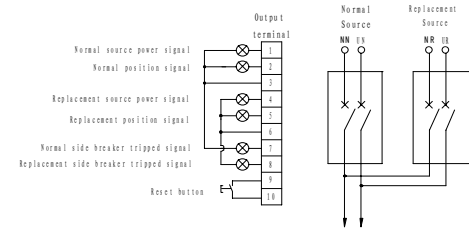
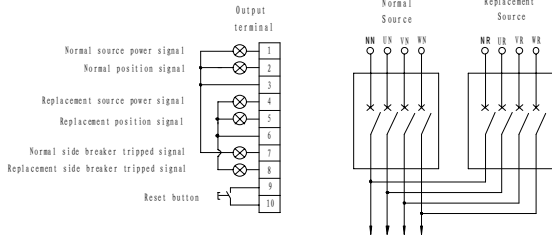

Fig.4 Two Poles ATNS with A type Controller
Fig.6 Four Poles ATNS with A type Controller
- State indication of Normal power source, Replacement power Source ,breaker closed and breaker failure trip are provided. For ATNS with A type controller, these signal (with Power)are provided to customer by output terminal, you can use these output signal according Fig.4—Fig.6. It should be notice that No.9 and 10 is to connect with a reset Button only for "Self-transfer and reset-return" recovery mode, other bits is optional for customer to connect with lamp or relay outside.